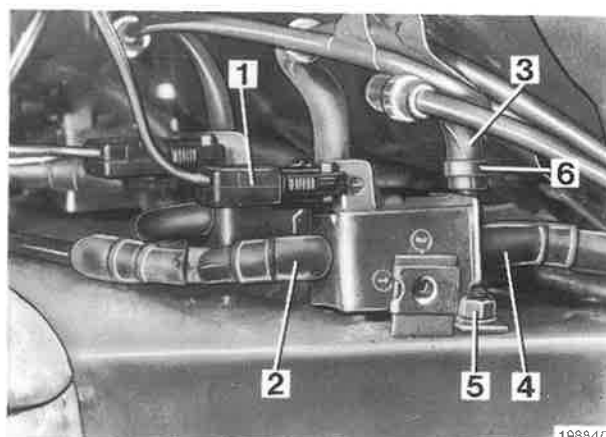

Fig. 4
- 5 Fitting is made in reverse sequence. Mount clamping ring (4/6) at connection no. 3 in same position as shown in fig. 4.